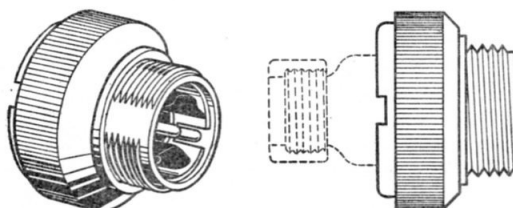

Fig. 3. Typical coupler (plug)
7. The range of couplers available is listed in Table 3. These are intended for joining together lengths of cable, and mate with the free units listed in Table 1. A typical coupler is illustrated in fig. 3.